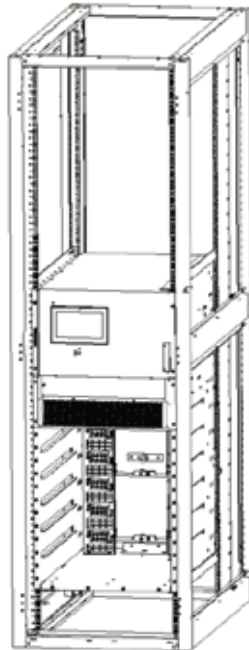

Figure 3-8 Installation schematic diagram
3. The 4-6 slot module cabinet is directly loaded into the server cabinet, placed on the guide rail, and lock the screws of the bypass module and the manual bypass switch panel, as shown in Figure 3-8.